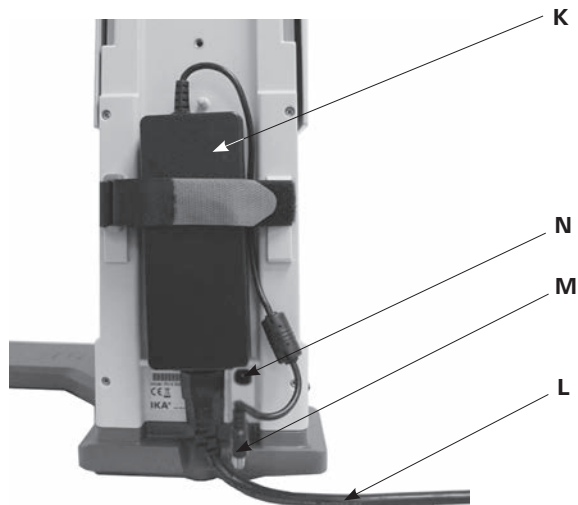

Fig. 9
### 3.) Fix the Desktop switching. (Fig. 9)
- Attach the switching adapter (K) on the rear side. Secure it with the Velcro, by contracting both tabs on the switching adapter. The Velcro must not be below the switching adapter.
- Connect the Low-voltage connector (M) to the connection socket (N). (Fig. 9)
- Plug the power cord (L) in the switching adapter and connect it to the power source.